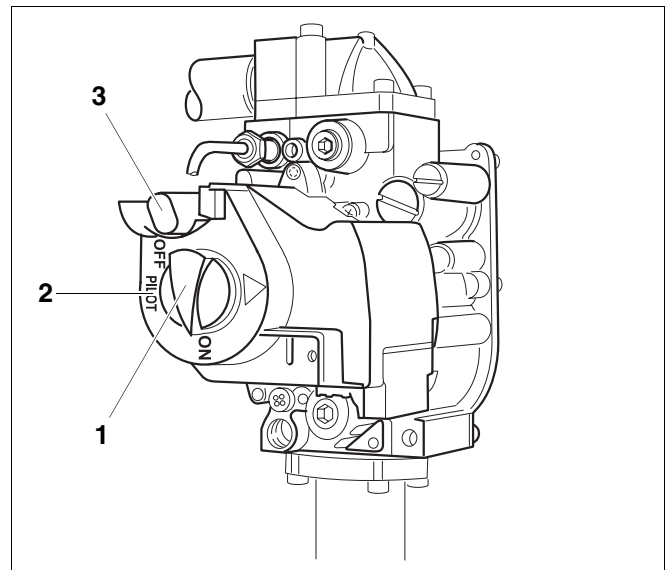

Fig. 5 Gasarmatur GC124 SP
- Never use excessive force, when adjusting the gas control knob (→ Fig. 5).
8. Turn gas control knob (→ Fig. 5) clockwise to the PILOT position.
9. Push and hold the red pilot ignition button (→ Fig. 5) in.